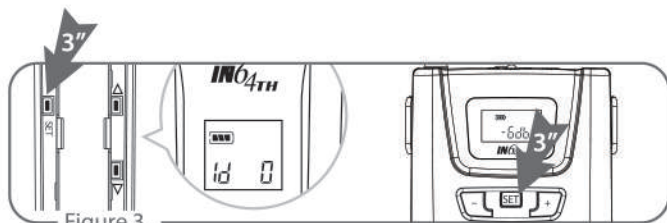

Figure 3
- (1) Press "Set" button 21 29 for 3 seconds, LCD Panel will start flashing.
- (2) Press "Set" a couple of times until "ID Code" setting window shows.
- (3) Press "▲Up 22 30" or "▼Down 23 31" button to select a distinct ID code from "id 0" to "id 99". (Figure 3)
- (4) After setting, press "Set" again to save the settings.